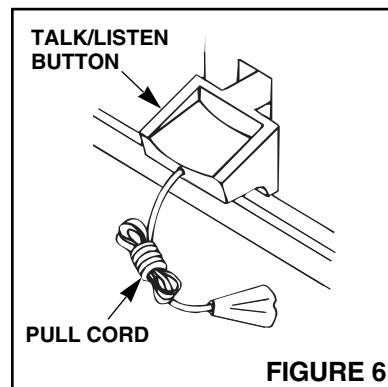

FIGURE 6
2. **Refer to Figure 6.** Attach pull cord if required. Insert cord through hole in TALK/LISTEN button. Secure cord with knot.